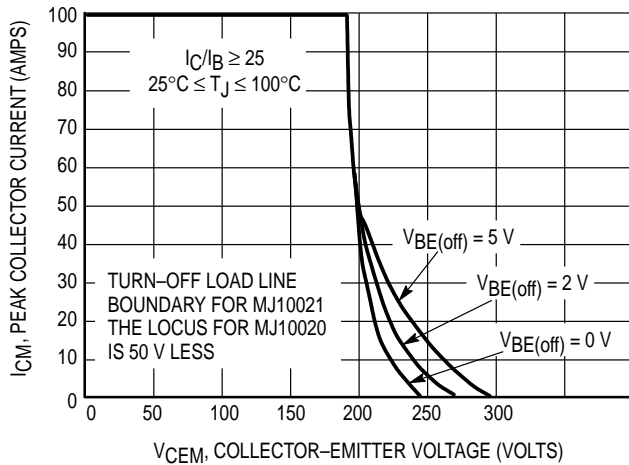

Figure 14. Maximum RBSOA, Reverse Bias Safe Operating Area
* Adjust $-V$ such that $V_{BE(off)} = 5 \text{ V}$ except as required for RBSOA (Figure 14).
For inductive loads, high voltage and high current must be sustained simultaneously during turn-off, in most cases, with the base to emitter junction reverse biased. Under these conditions the collector voltage must be held to a safe level at or below a specific value of collector current. This can be accomplished by several means such as active clamping, RC snubbing, load line shaping, etc. The safe level for these devices is specified as Reverse Bias Safe Operating Area and represents the voltage-current condition allowable during reverse biased turn-off. This rating is verified under clamped conditions so that the device is never subjected to an avalanche mode. Figure 14 gives the RBSOA characteristics.